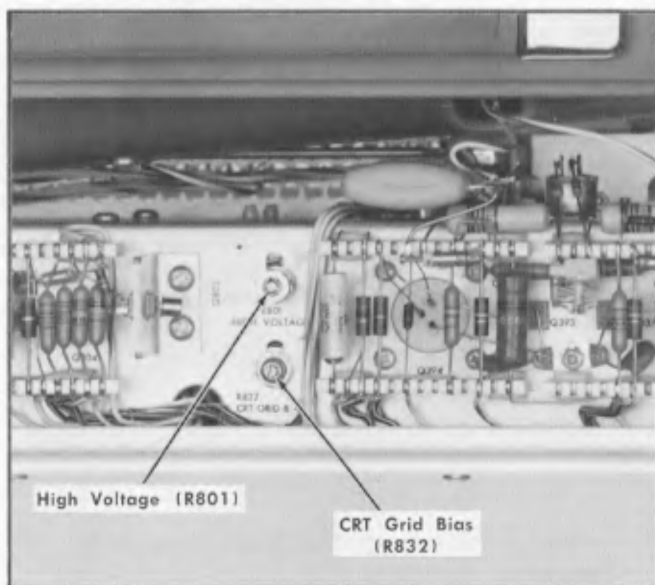

Fig. 6-8. Location of High Voltage control, R801 and CRT Grid Bias, R832.
- ADJUST—High voltage control, R801 (see Fig. 6-8), for an exact 2.2 kV DC voltmeter indication.
f. Set the Type 647A CRT Grid Bias control fully counterclockwise, see Fig. 6-8.